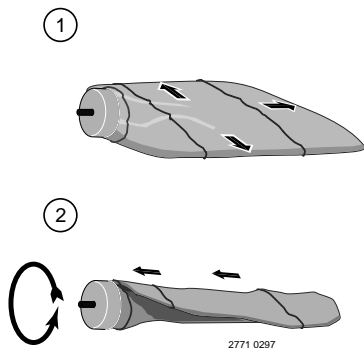

Figure 4: Spread Air Cell Out Flat and Squeeze Air Out; Roll Cell Tightly, Squeezing Remaining Air Out Through Valve
- B. Place air cell on clean surface with opening to one end; flatten bag to force air out. Pull ends out flat (see Figure 4).
- C. To get tightest possible wrap, start on one side and TIGHTLY roll air cell to other side (see Figure 4). Force out as much air as possible.